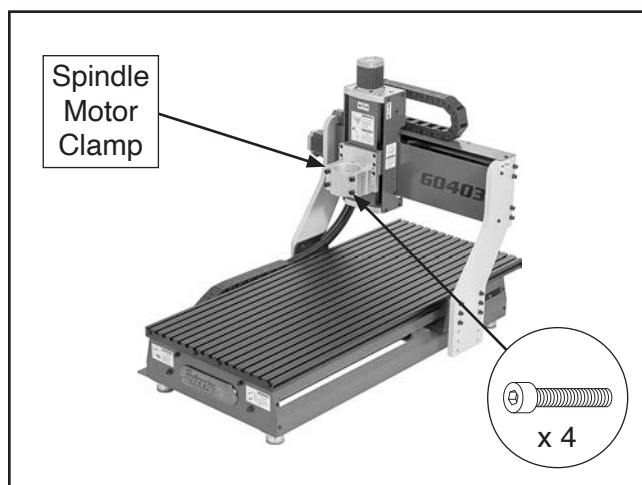

Figure 20. Location of spindle motor clamp.
5. Remove (4) caps screws on spindle motor clamp (see **Figure 20**), then remove clamp.